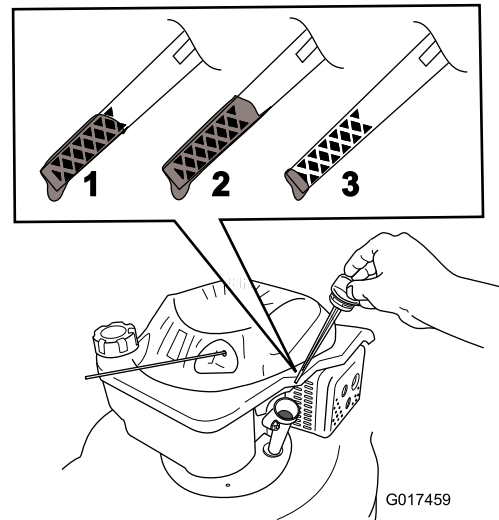

**Figure 37**
5. Tip the mower onto its side, with the dipstick down, to drain the used oil out through the oil fill tube (Figure 37).